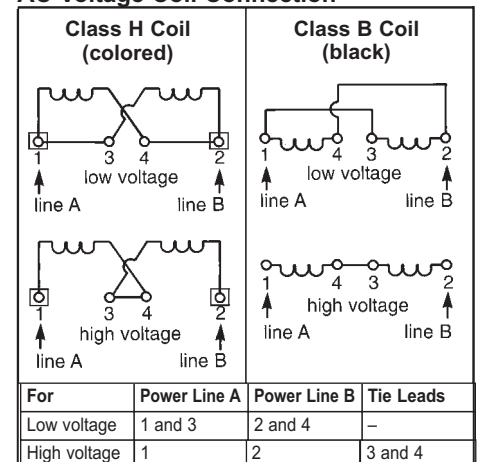

Figure 6 (see next page for dual frequency coil connection)
- Reassemble plunger (29) in reverse order of Item 3, remove screwdriver. Check that plunger and frame are aligned; realign frame if necessary.
- Dual voltage class H (encapsulated) coils have two terminals and two black wires. Dual voltage class B (molded) coils have two red and two black wires. Follow proper leadwire sequence shown in figure 6.